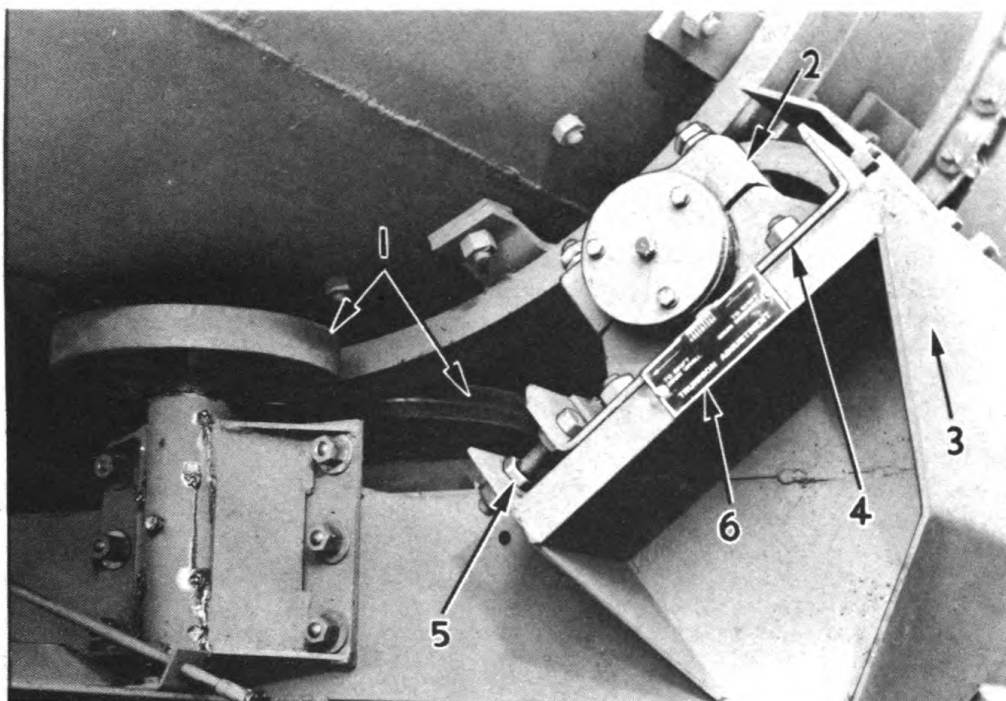

FIG. 12 - TRUNNION AND THRUST ROLLER ASSEMBLIES.
In order to simplify the adjustment of each trunnion, a brass instruction plate (6) Fig. 12, is attached to each trunnion support frame. This plate not only shows which way to skew the trunnion to shift the drum, either uphill or downhill, but has a scale to show the distance that the trunnion assembly has been skewed. The scale has a zero point that denotes "No Skew". On either side of the zero point, the scale is calibrated in eighths and sixteenths of an inch. The eighths are numbered 1, 2, 3, and 4. The sixteenth marks are not numbered. A chisel mark in the trunnion pivot frame, directly above the instruction plate, serves as an indicator to show the amount of skew. If the chisel mark lines up with the two on the scale, this denotes $2/8$ of an inch, or $1/4$ " skew. If the chisel mark lines up with the sixteenth mark between 2 and 3, this denotes $2/8$ " plus $1/16$ ", or $5/16$ " total skew. Although the scale is calibrated to 4, or $1/2$ " skew, the practical limit of adjustment is reached at 3, or $3/8$ ".
1. Loosen the four bolts (4) Figure 12, that secure the rear trunnion pivot frame (4) to the support frame. CAUTION: Do not confuse these bolts with the bolts that secure the trunnion bearings to the pivot frame.
2. Slack off the nut on the adjusting bolts (5) on the end of the trunnion that will be pulled away from the drum while adjusting. Take up on the opposite adjusting bolts (5) until the trunnion has been skewed not more than 1/16 of an inch. Remember that as the nuts on one adjusting screw are taken up, the nuts on the opposite adjusting screw must be slacked off. Tighten nuts on the adjusting bolts. Tighten bolts securing the pivot frame to the support frame.
In addition to the trunnion rollers, two thrust rollers (1) Fig. 12, for each drum assist in maintaining the proper uphill-downhill position of the drum. The thrust rollers are located at the bottom of the front drum tire and mounted on either side of the drum tire. The principle of the thrust rollers is not to absorb the thrust of the drums, but rather to limit the distance that the drum can move uphill or downhill. If the trunnions are properly adjusted, the upper drum tire should ride evenly between the thrust rollers without coming in contact with either of them. If the drum tire rides hard against either of the thrust rollers, the trunnions should be adjusted to bring the tire away from the thrust roller.